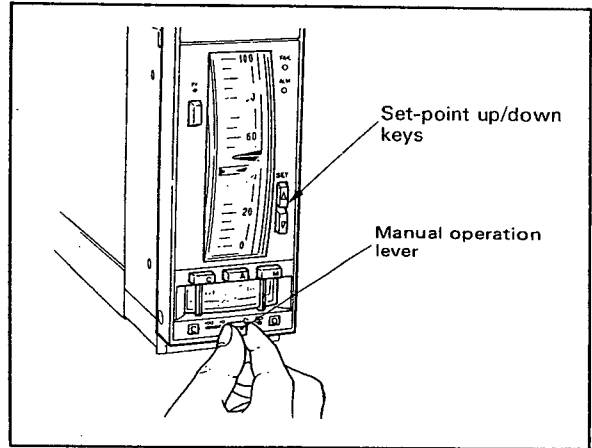

Figure 5-3-2. Manual Output Operation.
b. Adjust the manipulated output signal by moving manual operation lever to the left or right. (See Figure 5-3-2.)
c. Set a desired setpoint by using the set-point up/down keys. (See Figure 5-3-2.)